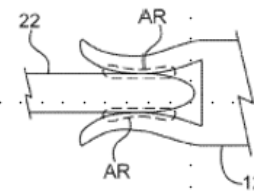

FIG. 2A
- Sensor (100) embedded in meter base (24) within 4 inches of Stabs (22)
- FIG 2A. Arc will occur when Contact Surface Area (22,12) Compromised
- Arc Detector (110): Tank Circuit (110) De-Tuned Resonant R,L,C Circuit*
- Arc Count = One Second Resolution ($f(RC$ Time Constant) (150))
- Output (130) Logic High for One Second